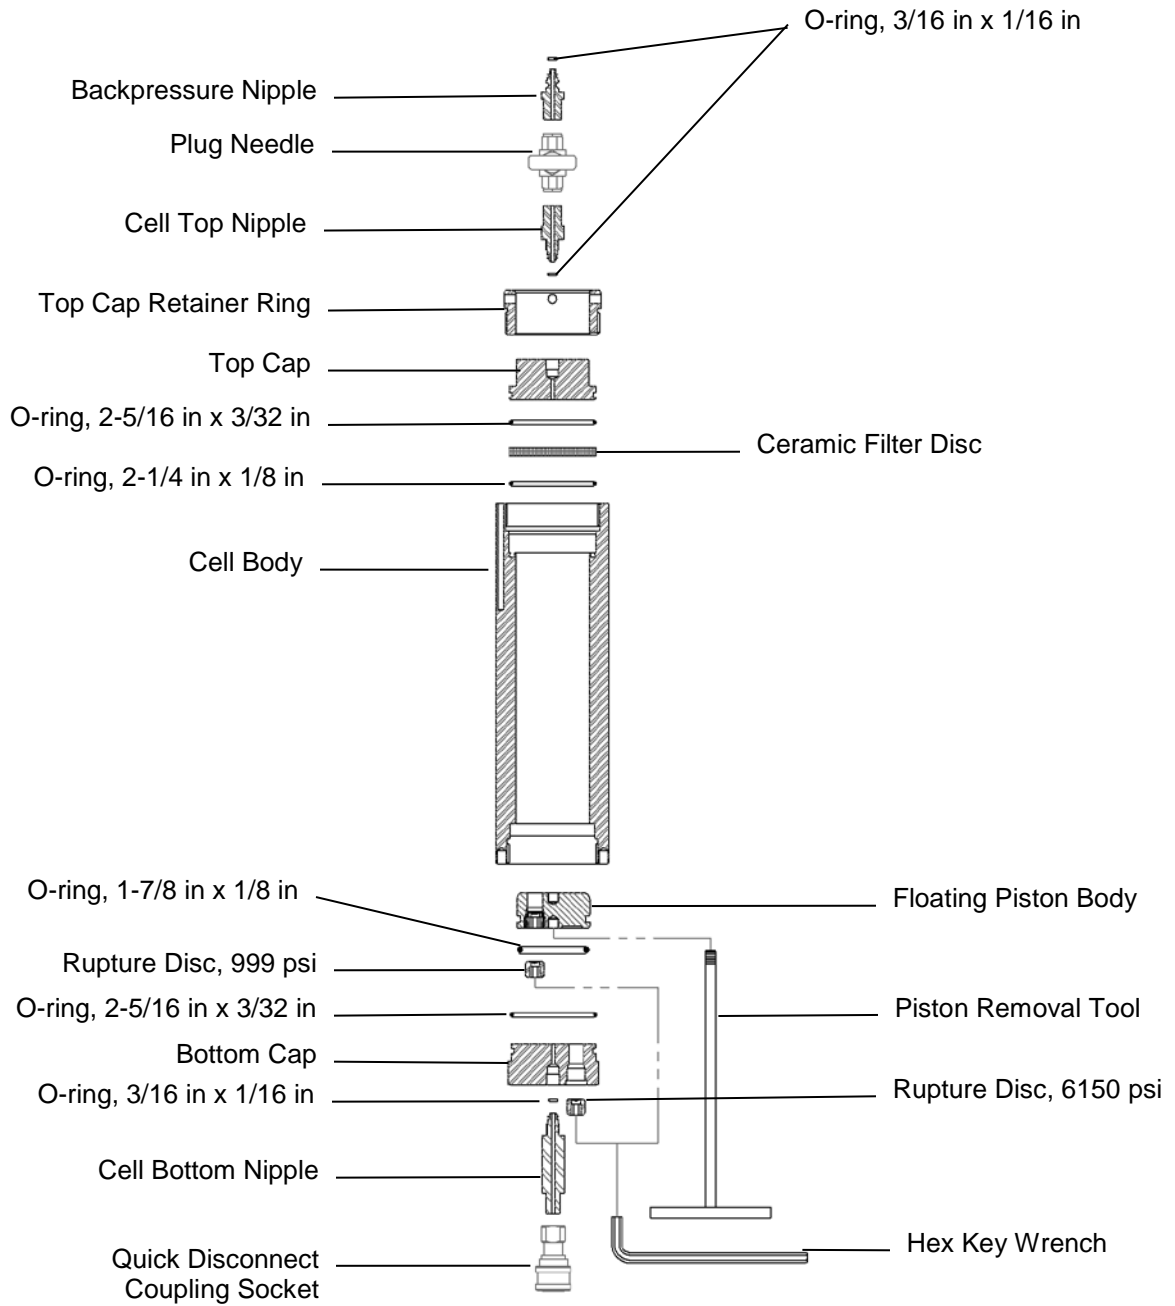

Figure 5-1 Cell Assembly Drawing
- Figure 5-1, a drawing of the disassembled cell